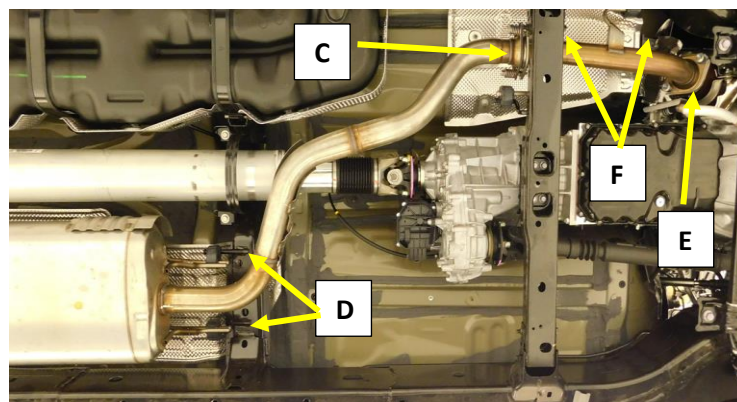

Figure.2
5. Remove the spring bolts at the flanged connection between the down pipe and the muffler inlet pipe**(C)**. **Fig.2**
7. Remove the spring bolts from the flanged connection between the catalytic converter and the down pipe **(E)**, remove the rubber isolators **(F)** and remove the down pipe. **Fig.2**